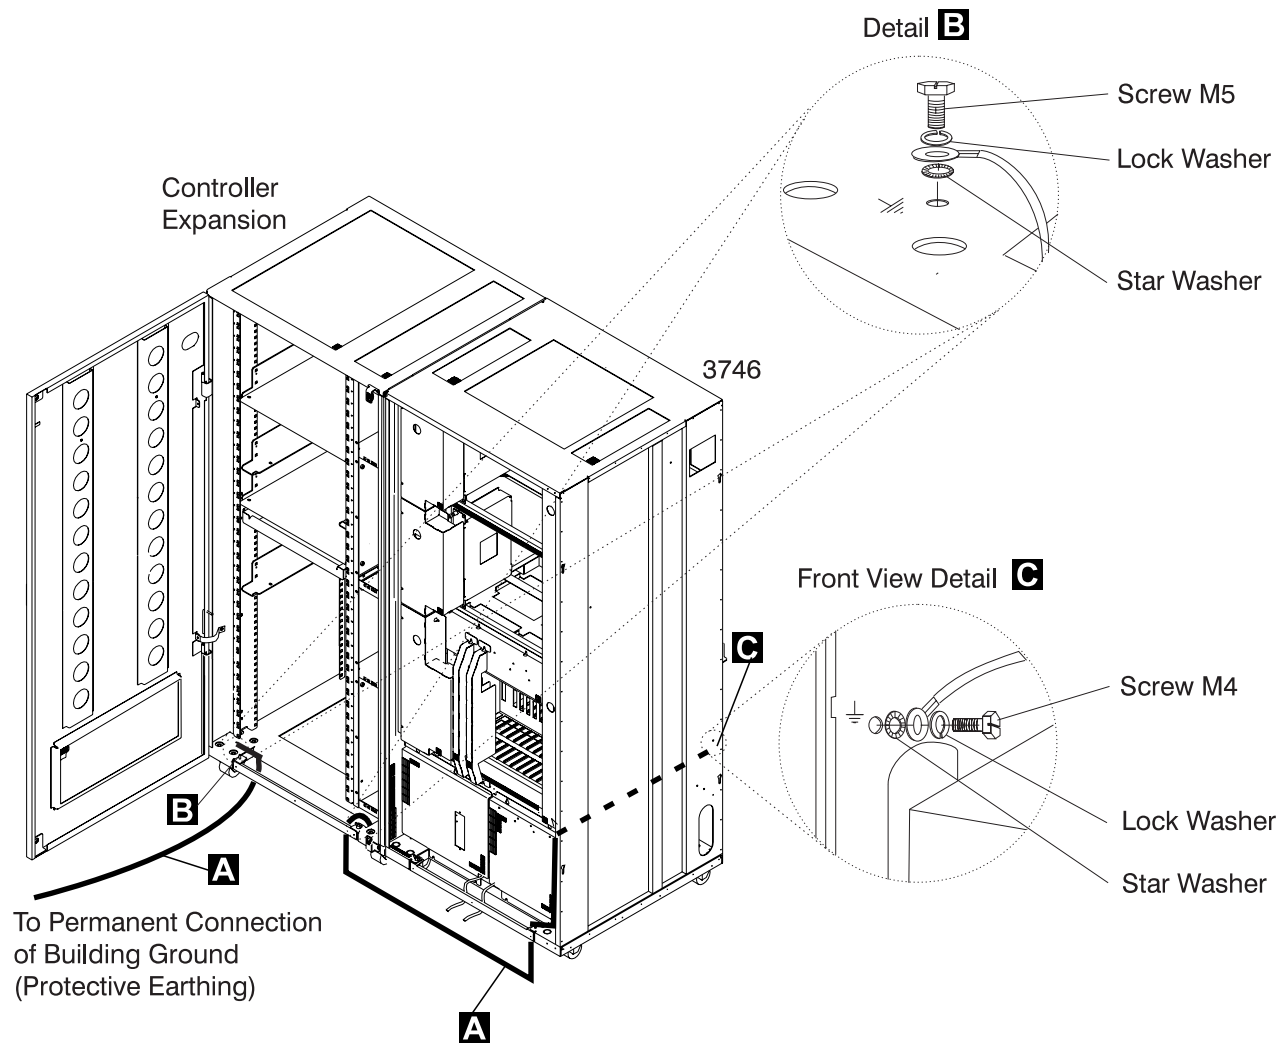
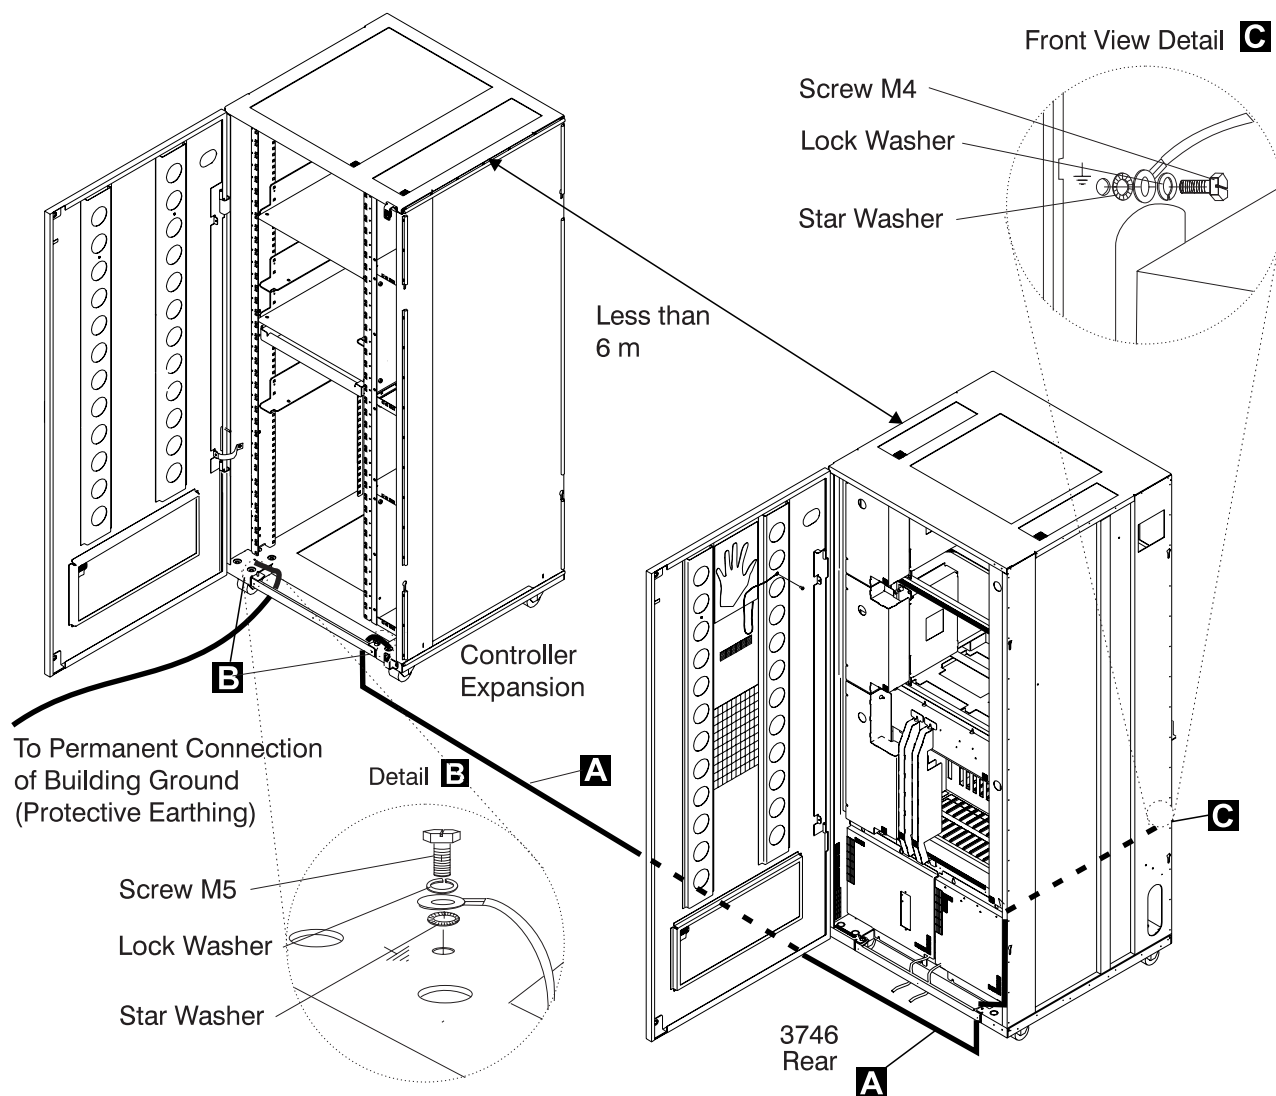
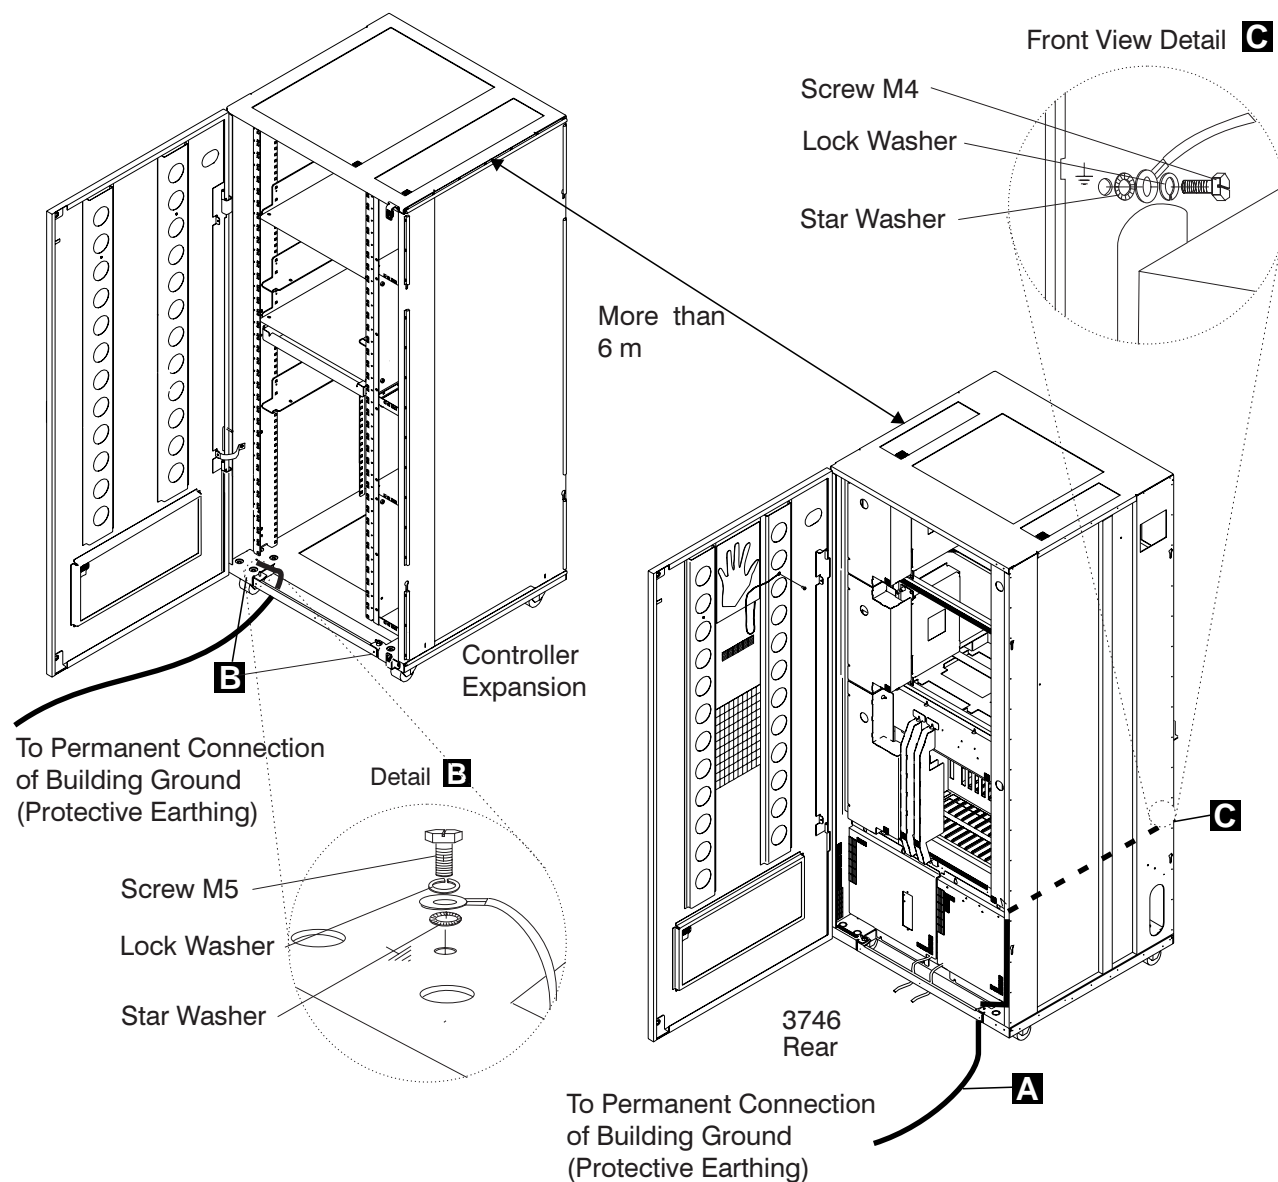

Figure 0-2. Ground Wire Connection Between the Controller Expansion and Attached 3746-950 Frame
Figure 0-3. Ground Wire Connection for the 3746-950 and Controller Expansion Located at Less than Six Meters
Figure 0-4. Ground Wire Connection Between the Controller Expansion and 3745-950 at more than Six Meters
Do not remove the power cords and ground wire **A** on the 3746-950 and controller expansion in order to maintain the ground protection (see Figure 0-2 on page xxiv, Figure 0-3 on page xxv, or Figure 0-4 on page xxvi).
- Check the presence of ground wire **A** according to your configuration (see Figure 0-2 on page xxiv, Figure 0-3 on page xxv, or Figure 0-4 on page xxvi).